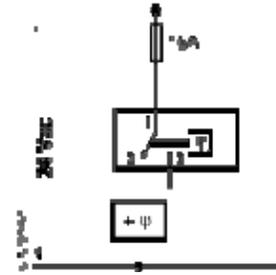

Figure 4. Humidification.
4. Before mounting the hygrostat, run the cable through the back of the housing, and terminate the lead wires appropriately, based on how the unit is intended to operate (either switching on humidification or on de-humidification). See Figures 4 and 5.